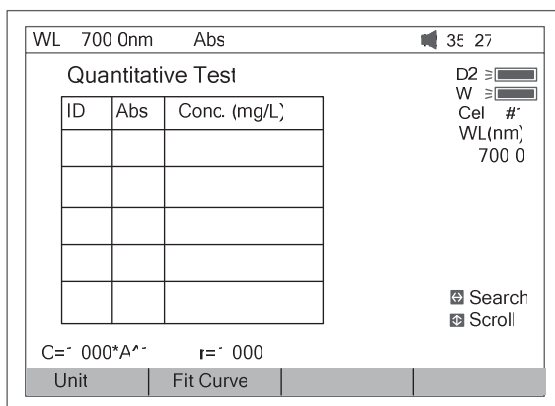
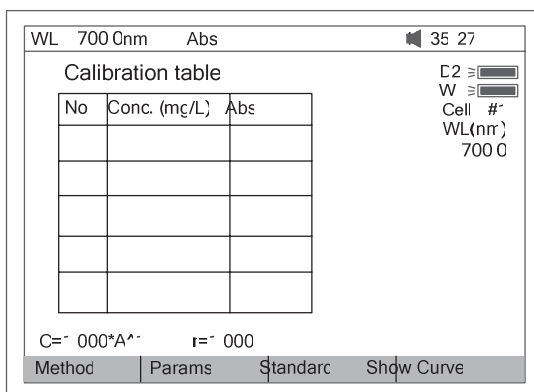
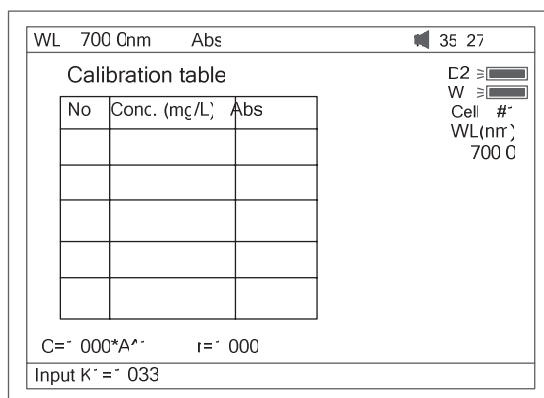
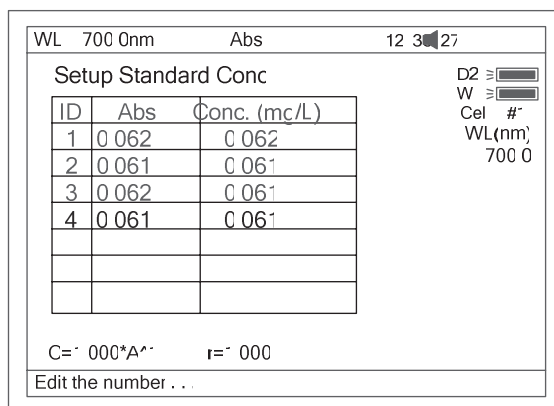

Fig 25
Fig 28
Fig 29
Fig 30
Press **【2】** in Main Menu for “Quantitative” Test (Fig 25). Press **【ESC】** to exit.
Note: .If no automatic changer installed “cell #1” will disappear in Fig25.
3. Press **【F2】** in Fig 25 for more items to select .See Fig 28.
3.1 Press **【F1】** in Fig 28 to select fitting method. There are 4 methods for you to choose: Linear fit, linear fit through zero, square fit and cubic fit.
3.2 Press **【F2】** in Fig 28 to enter directly a known standard curve. Fig 29.
3.3 Press **【F3】** in Fig 28 to establish a standard curve by measuring a group of standard samples. See Fig 30.
See 3.2. For Fig 28 enter a known standard curve directly.
Note: All sample results must be taken in screen (Fig25).